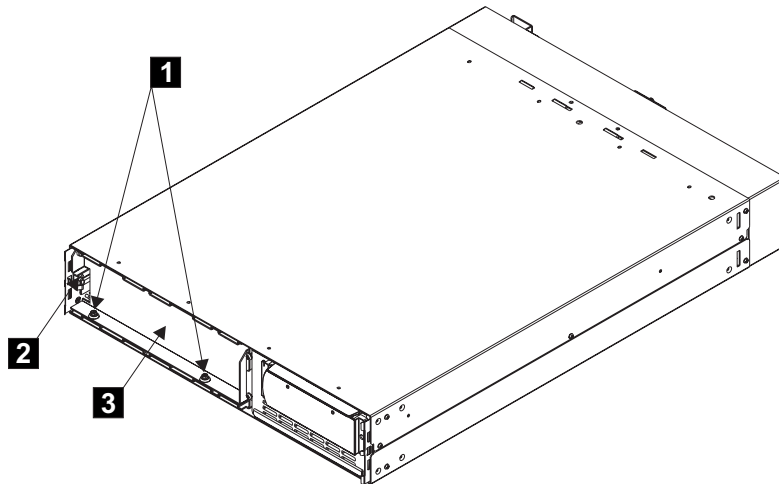

Figure 232. Remove the battery retaining bracket
- c. Remove the two bolts **1** and additional nut **2** on the left side of the bracket. See Figure 232.